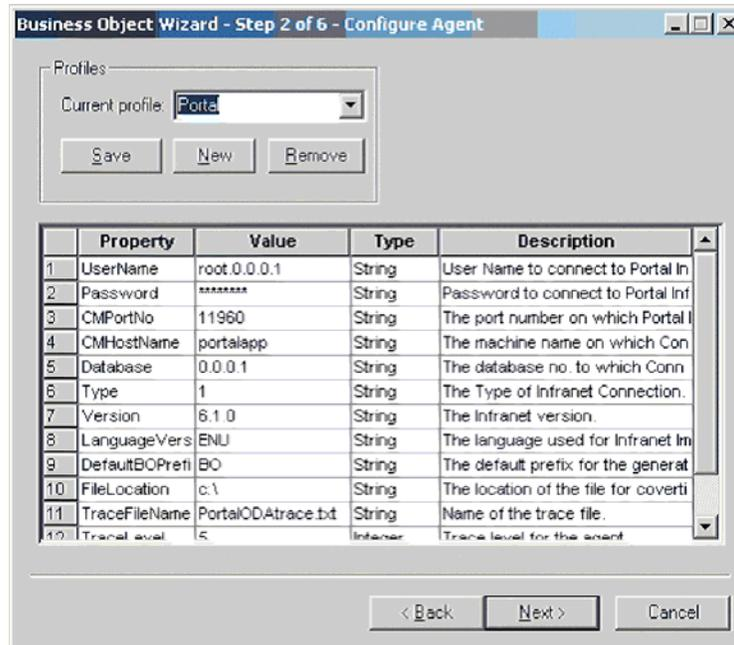

Figure 17. Configuring agent initialization properties
The first time Business Object Designer communicates with PortalODA, it prompts you to enter a set of initialization properties as shown in Figure 17. You can save these properties in a named profile so that you do not need to re-enter them each time you use PortalODA. For information on specifying an ODA profile, see the *Business Object Development Guide*.
- *Prefix*—The text that is prepended to the name of the business object to make it unique. If you are satisfied with the value you entered for the *DefaultBOPrefix* property in the Configure Agent window (Figure 17), you do not need to change the value here.